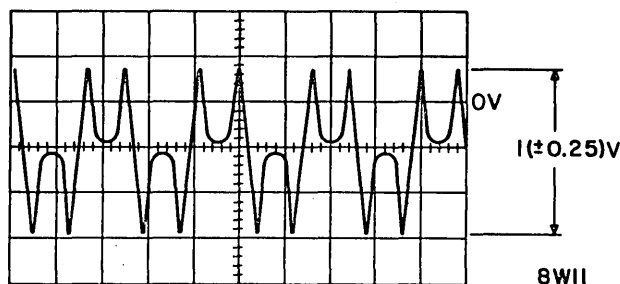

Figure 3-12. Track Servo Amplitude
6. Observe waveform similar to Figure 3-12. Move carriage to position near cylinder 000 so that horns (one set positive, other set negative) are of equal amplitude. Carriage is now on cylinder. Peak-to-peak voltage must be 1.0 (± 0.25) volt.